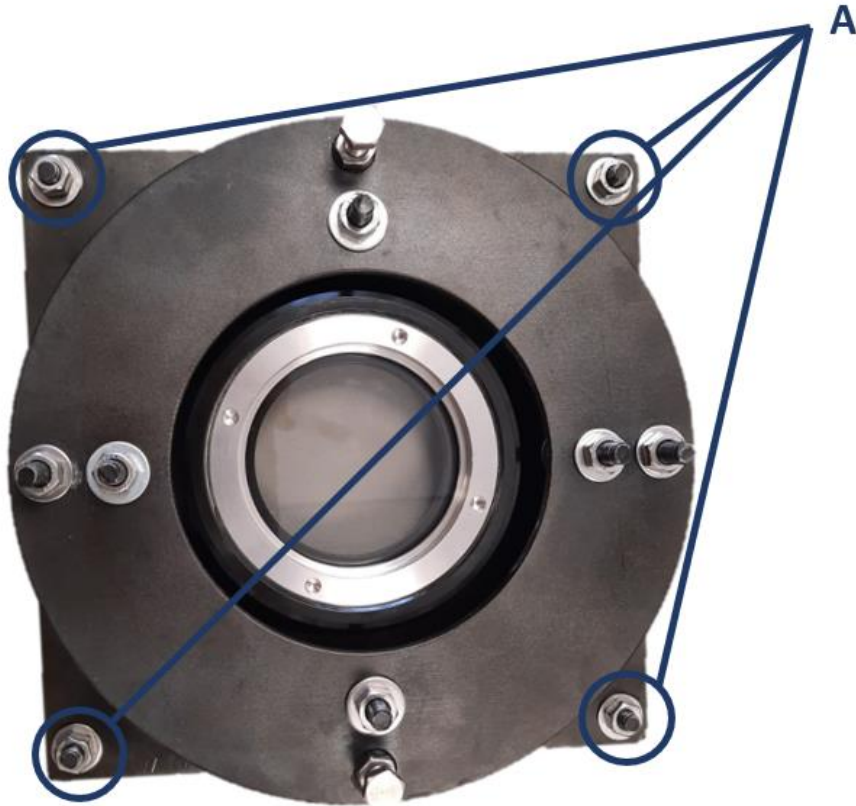

Figure 8: Duct Mount
- 1) Unscrew the detector plate holding screws, Figure 8, item A.